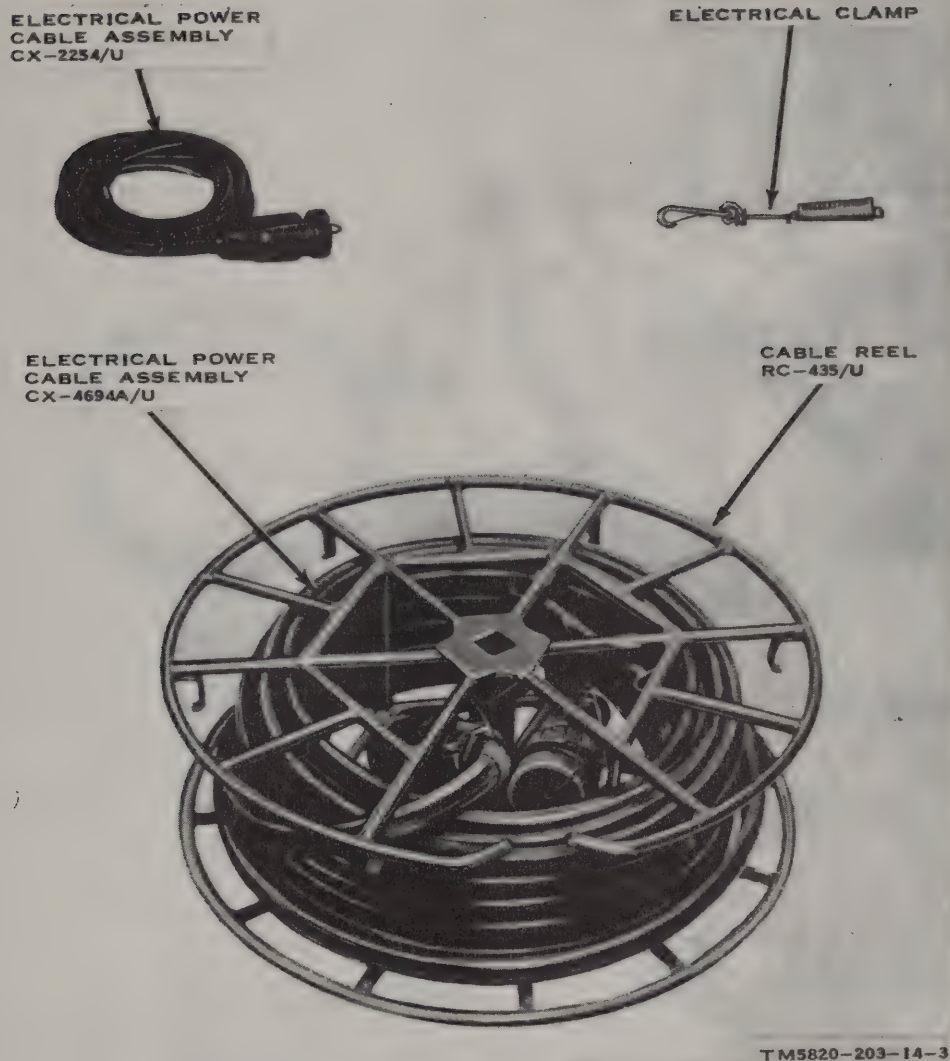

Figure 1-8. Power cable, power cable stub, and electrical clamp.
- (1) *Power Cable Assembly CX-4694A/U.* The CX-4694A/U (power cable) is a 100-foot length of three-conductor cable with a watertight power connector at each end (fig. 1-8). It is wound on Cable Reel RC-435/U which is mounted on top of the ladder and secured to the floor of the shelter facility (fig. 1-5).
- (2) *Power Cable Assembly CX-2254/U.* The CX-2254/U (power cable stub) is a 10-foot length of three-conductor cable with a watertight power connector at one end and red, white,
and black prepared leads at the other end (fig. 1-8). When not in use, it is stored in the accessories and spares cabinet (A, fig. 6-1).